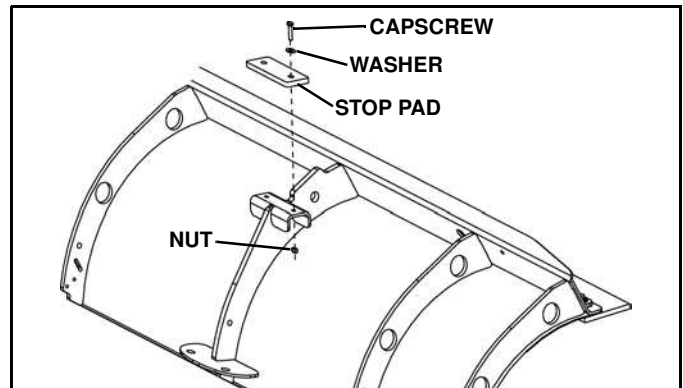

Figure 1-4
3. Install a stop pad to one side of the blade using two 5/16"-18 x 1-1/2" hex head cap screws, two 5/16" flat washers and two 5/16"-18 lock nuts. (See Figure 1-4).